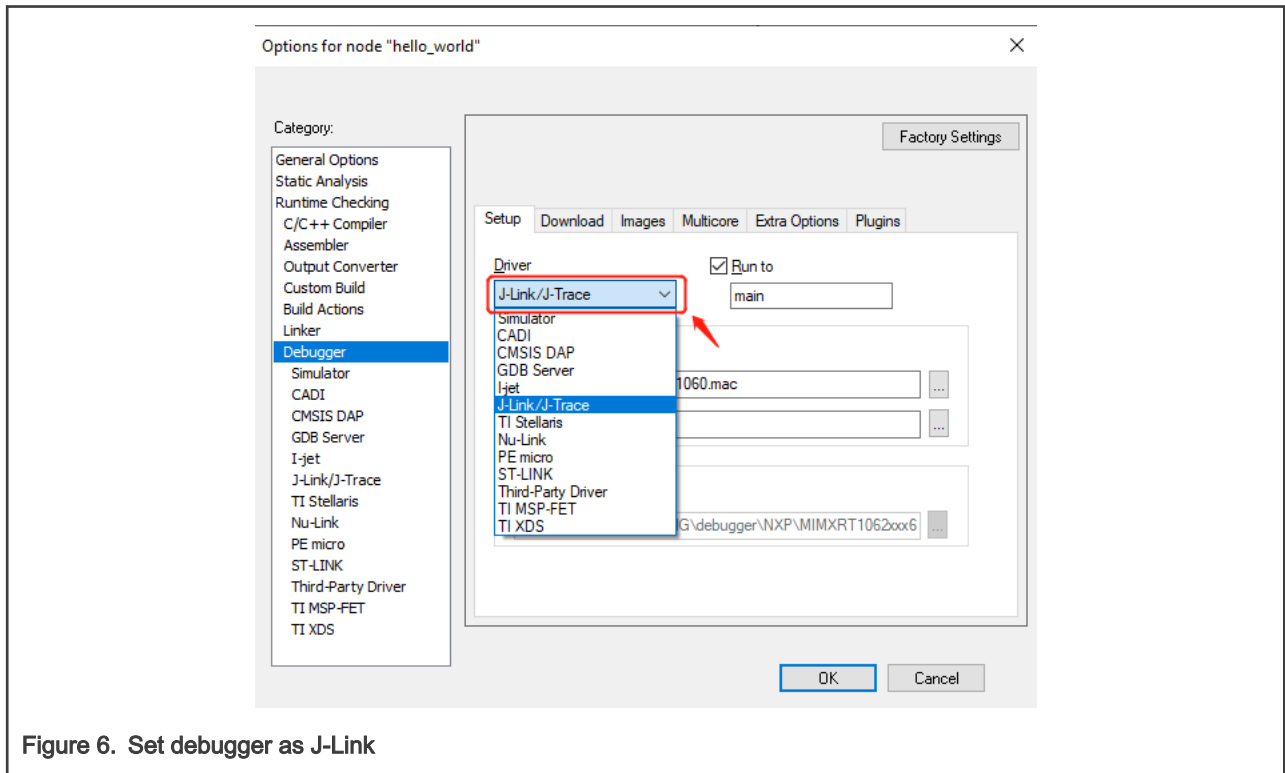

Figure 6. Set debugger as J-Link
- Click **Project -> Options -> Debugger**. Set the driver to **J-Link/J-Trace**, as shown in Figure 6.